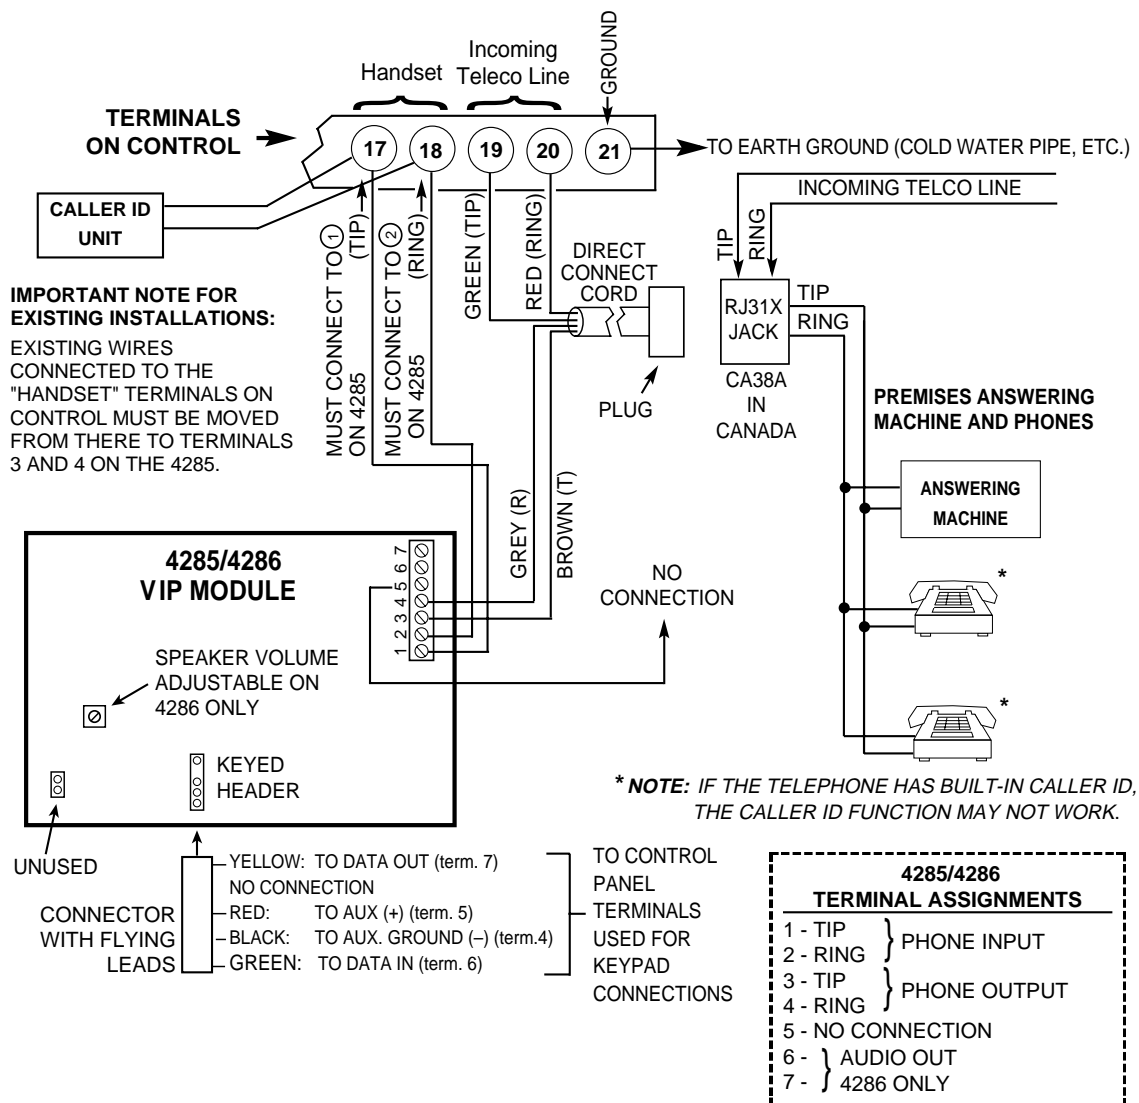

Figure 11. 4285/4286 VIP Module Wiring Connections
1. Phone In (Tip)	Terminal (17) on control.
2. Phone In (Ring)	Terminal (18) on control.
If no touch-tones are produced following access to the security system **from on-premises** (this problem may arise in rare cases), it may be necessary to reverse the wires connected to terminals 3 and 4 on the VIP Module **and** the wires connected to terminals (17) and (18) on the control. *Figure 11* shows the wiring connections that will provide proper operation in most cases.
If the telephone system on the premises includes a Caller ID unit, connect the ID unit directly to the “Handset” terminals (17 and 18) on the control, as shown in *Figure 11*.